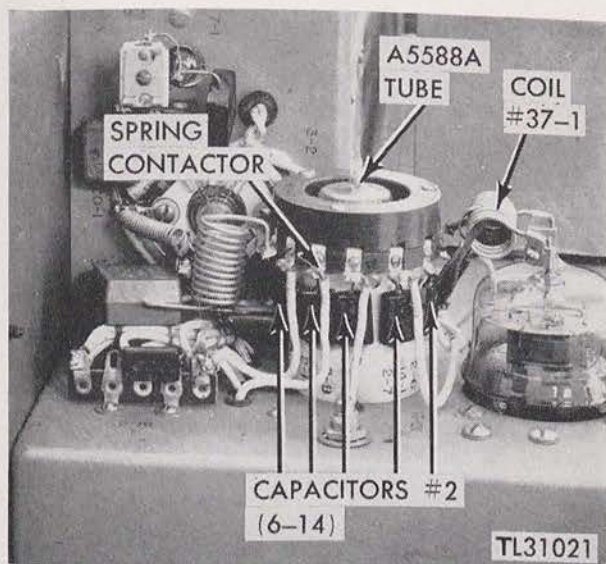

Figure 135. Receiver BC-404-B, r-f section.
- (1) Remove the A5588A tube (fig. 135). Follow procedure outlined in paragraph 167.
- (2) Disconnect the capacitor terminal from the spring contactor.
- (3) Disconnect the other terminal of the capacitor.
- (4) Remove the capacitor.
167. A5588A Tube (fig. 135)